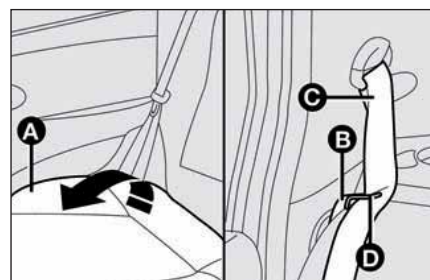

fig. 117
- ☐ check that each of the two side seat belts **C-fig. 117** is inserted in the corresponding seat belt guide **C-fig. 117**;
- ☐ raise the cushion **A-fig. 117** as shown in the figure ;
- ☐ release the backrest, by moving the levers **B-fig. 117** then fold it forward to obtain a flat loading surface.